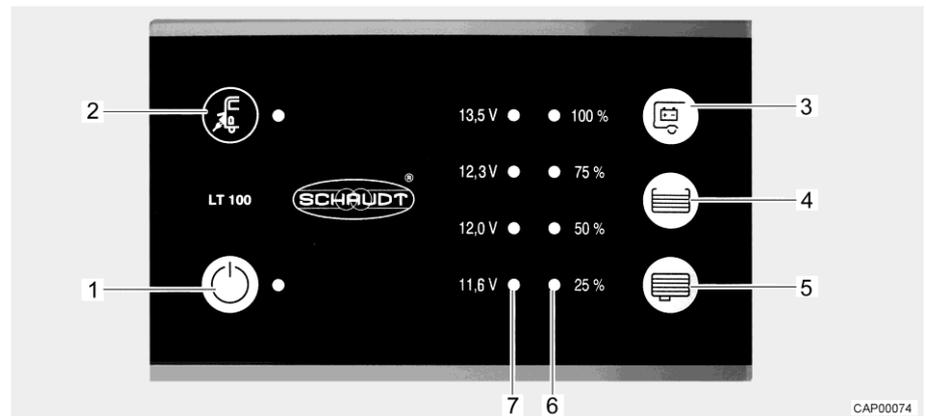

Fig. 70 Panel (LT 100)
The yellow LED at the mains connection symbol "⚡" (Fig. 70,2) is lit when the vehicle is connected to an external mains supply. In this case, the LED will also be lit when the panel is switched off.
The 12 V main switch (Fig. 70,1) switches the panel and the 12 V power supply of the living area on and off.
- Press switch "⏻" (Fig. 70,1): The 12 V living area power supply is switched on. The LED lights up green.
- Press switch "⏻" (Fig. 70,1) again: The 12 V living area power supply is switched off. The LED goes out.
The LED array (Fig. 70,7) displays the battery voltage of the living area battery as follows:
- Press the button " " (Fig. 70,3): the battery voltage of the living area battery is displayed.
The LED array (Fig. 70,6) displays the fill level of the fresh water tank or of the waste water tank.
Press the button "☰" (Fig. 70,4): The fill level of the fresh water tank is displayed by lit LEDs.
Press the button "☰" (Fig. 70,5): The fill level of the waste water tank is displayed by lit LEDs.